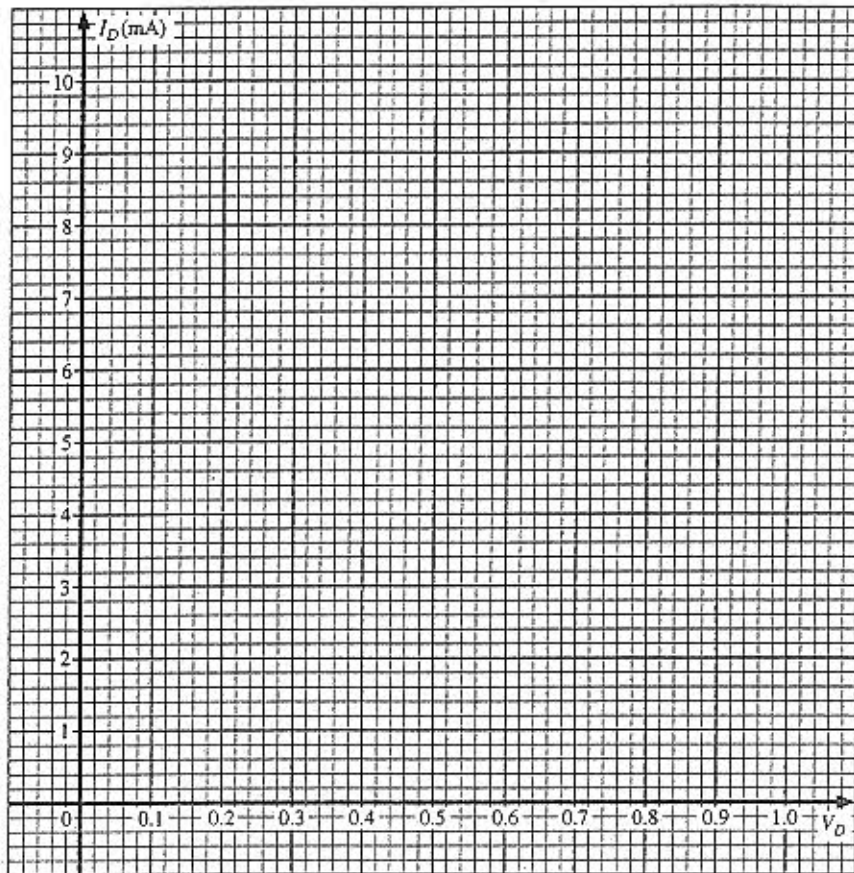

Figure 2-5
In this part of the experiment we will obtain sufficient data to plot the forward-bias characteristics of the silicon and germanium diodes on Fig. 2.5.
- e. On Fig. 2.5, plot I_D versus V_D for the silicon and germanium diodes. Complete the curves by extending the lower region of each
- a. Using the Si curve of Fig. 2.5 (page 18) determine the diode voltage at diode current levels indicated in Table 2.5. Then determine the DC resistance at each current level. Show all calculations.
- a. Using the equation $r_d = \Delta V / \Delta I$ (Eq. 2.2), determine the AC resistance of the silicon diode at $I_D = 9 \text{ mA}$ using the curve of Fig. 2.5. Show all work.
Graphically determine the firing potential (threshold voltage) of each diode from its characteristics as defined in the Résumé of Theory. Show the straight-line approximations on Fig. 2.5.